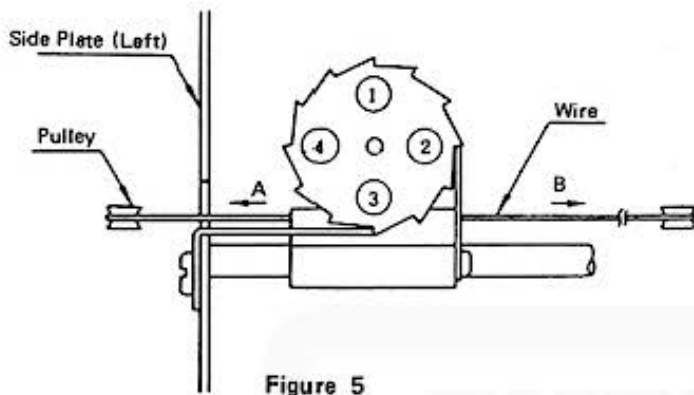
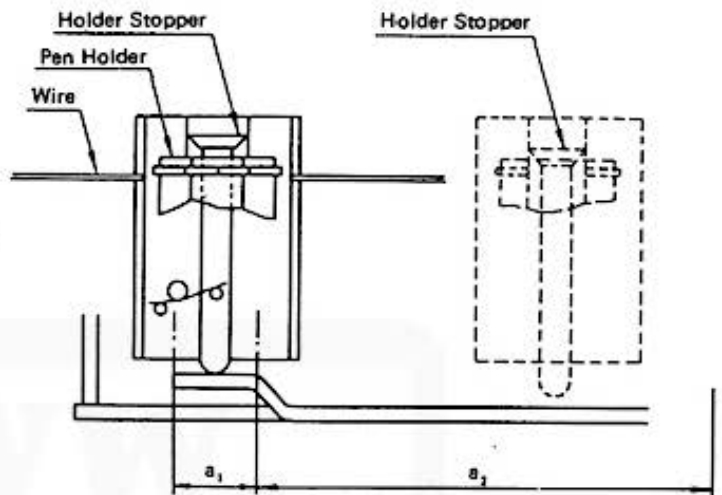

Figure 5
Figure 6
First, the slider moves to the area a-1 in Figure 6 (45 pulses to the left from the origin). Then, the holder stopper in the slider contacts the projection on the holding plate, and the wedge section of the holder stopper slips out of the pen holder, and releases holder to rotate. Next, by repeating the movement of the X motor for 30 pulses each in direction A and to the left, the pen ① in Figure 5 changes to pen ②. The spring moves the pen holder to the right until it returns to the origin. The pen holder then enters its groove, and printer is ready to print.